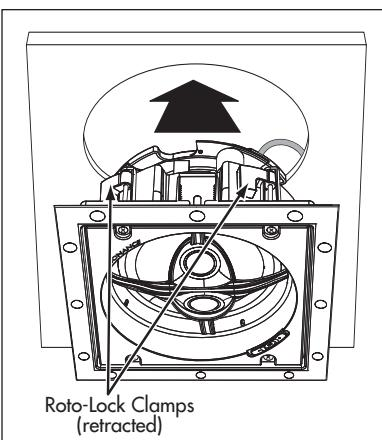

FIGURE 4: INSERT SPEAKER INTO MOUNTING HOLE
5. Make sure all the Roto-Lock clamps are in the full clockwise position so that they are tucked within the mounting hole's border. Insert the speaker into the hole in the wall or ceiling (*Figure 4*). The Roto-Lock system can accommodate a maximum wall or ceiling material thickness of 1 1/4" (32mm).